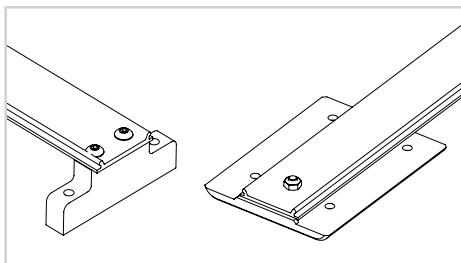

Fig. 6
- 5) Remove the screws and nuts that fix the belt to the block/plate (Fig.6).